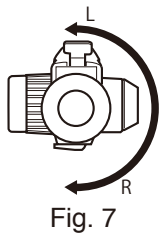

Fig. 7
- (1) Pull the Lock Sleeve to direction ①.
- (2) Turn the Valve Body to direction ② by 180°.
- (3) When releasing the Lock Sleeve, the Valve Body locks.
- (4) Try turning the Valve Body clockwise and counterclockwise to confirm that it is locked.
- (5) The Valve Body can turn by 180° in relation to the Housing as shown in Fig. 7. The Valve Body cannot rotate more than this degree.